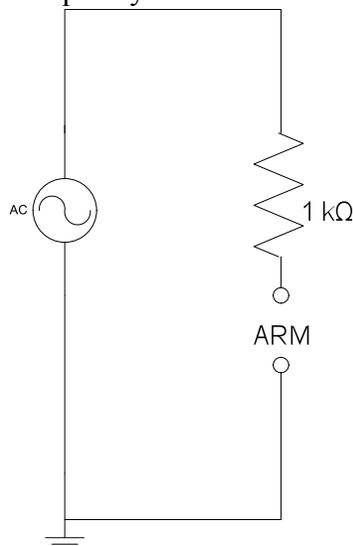

Figure 5. Resistor and arm voltage divider.
29. Connect 1 kΩ resistor in series with two electrodes attached on your arm and form a resistor–arm voltage divider as shown in Figure 5